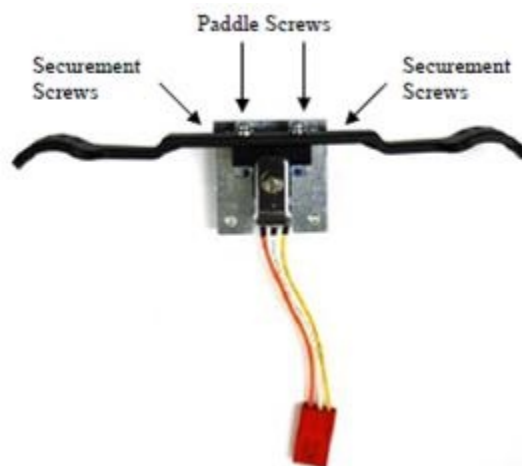

Figure 31. Throttle Pot
At this point the plastic paddle can be replaced by removing (2) screws. See figure 31.
6. Remove the (2) screws that fasten the throttle pot assembly.